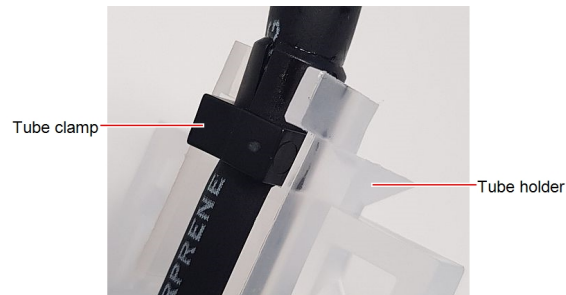

Figure 4-141 Pump tube secured with the clamp in the holder
20. Place the tube clamp onto the new tube, and insert it into the tube holder, making sure that the flat surface of the clamp faces outward (see Figure 4-141 above).